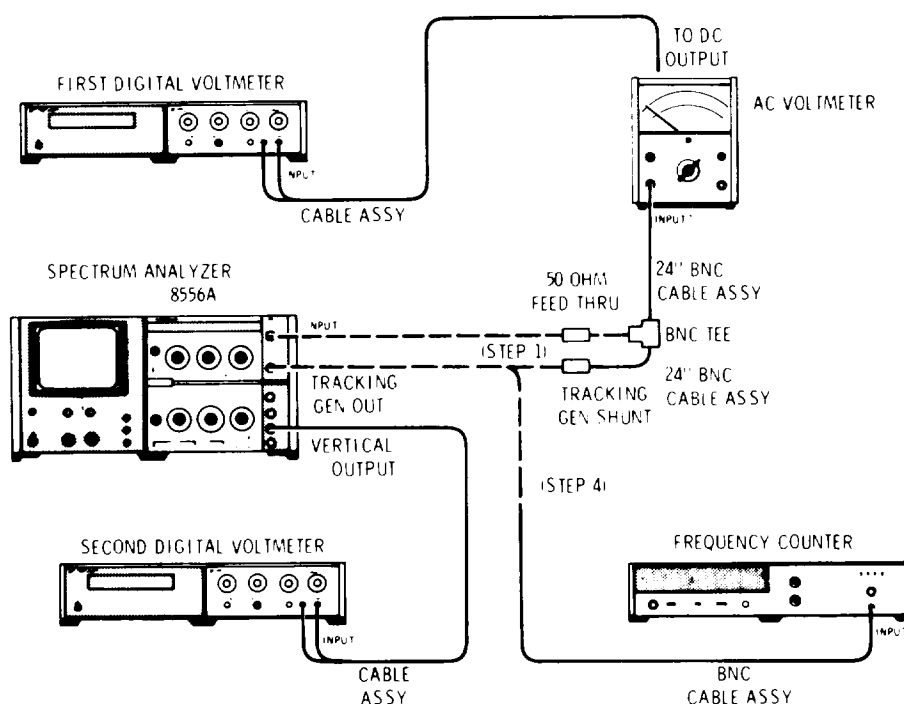

Figure 4-4. Frequency Response Test Setup
1. Connect equipment as shown in Figure 4-4, connecting TRACKING GEN OUT to analyzer INPUT through the Tracking Gen Shunt, BNC Tee, 24" BNC Cable Assembly, and the 50 Ohm Feed Thru Termination. Connect AC Voltmeter to BNC Tee at feed thru with a 24" BNC Cable Assembly; connect first Digital Voltmeter to DC OUTPUT on rear panel of AC Voltmeter. Connect second Digital Voltmeter to VERTICAL OUTPUT on IF Section.